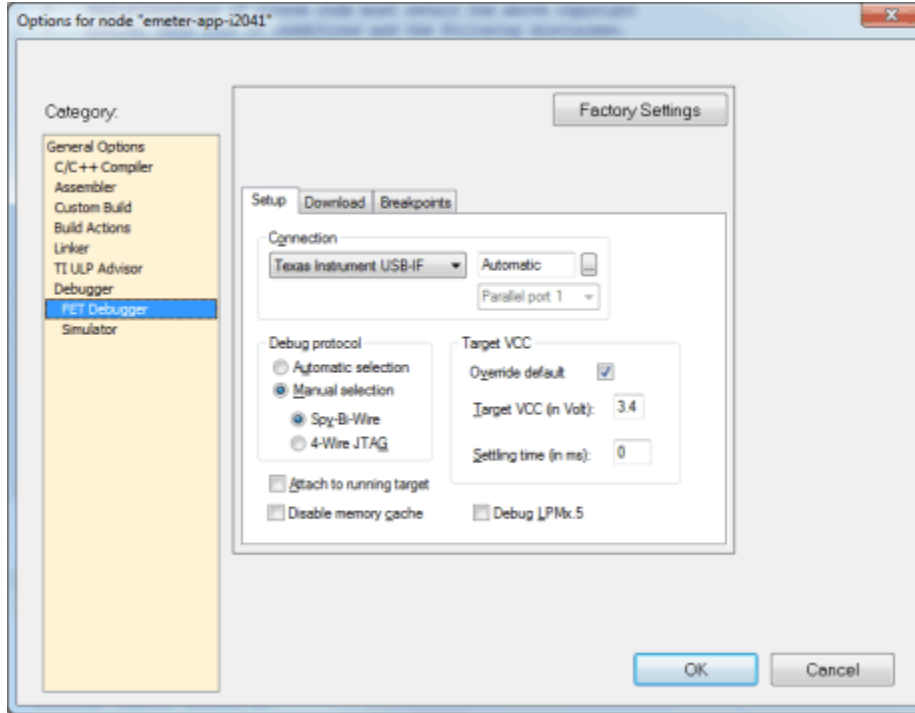

Figure 9-4. Debugger Options
- Select FET Debugger on the left hand column of the select Setup tab. The EVM uses Spy-Bi-Wire for its code downloading and debugging. Check to make sure the options are as shown in Figure 9-4.